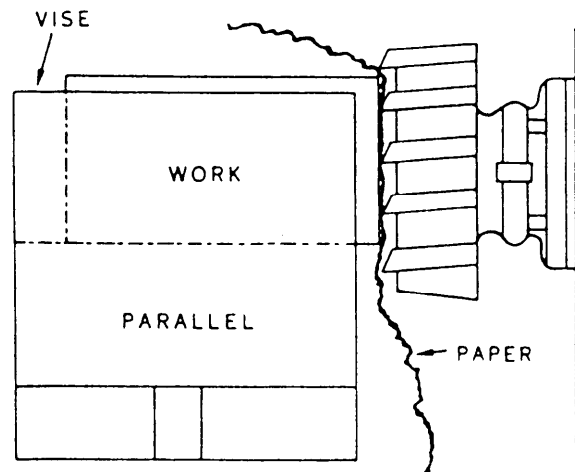

Figure 7-59.—Picking up the work surface.
9. Place a strip of paper between the cutter and the work, as shown in figure 7-59, to help pick up the surface. When the cutter picks up the paper there is approximately 0.003-inch clearance between the cutter and the material being cut.
4. Move the table toward the revolving cutter and pick up the side of the work. Use a piece of paper in the same manner as discussed earlier in this chapter and shown in figure 7-59.